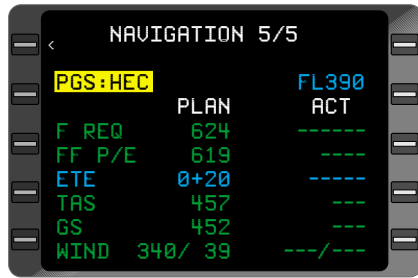

Figure 7-6
**NOTE:** Field changes to **ETE** when cursor is positioned over the leg identifiers. (Figure 7-6)